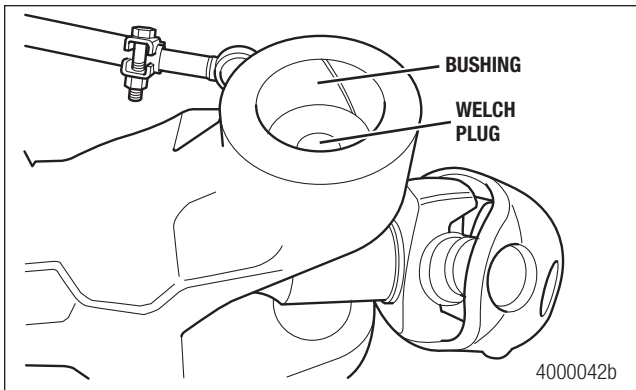

Figure 4.25
6. Inspect the upper and lower bushings for wear or damage while they're still in the housing sockets. Figure 4.25. Use the following procedure to remove worn or damaged bushings.